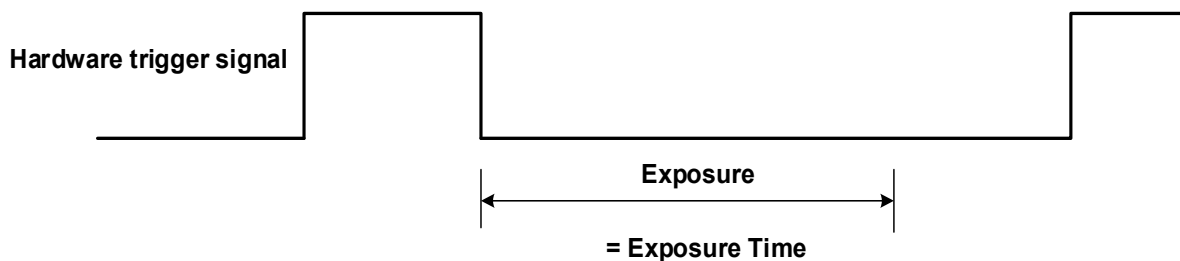

Figure 8-28 The sequence diagram in falling edge trigger of Timed exposure mode
- If falling edge triggering is enabled, exposure starts when the trigger signal falls and continues until the exposure time has expired, as shown in Figure 8-28.